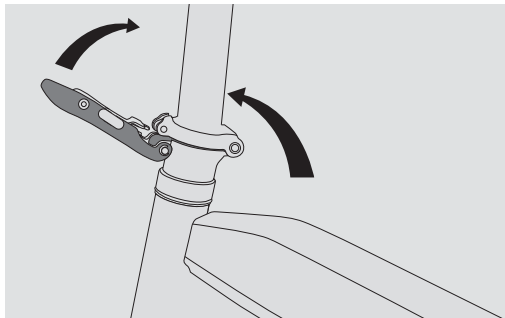

Figure 1.1
1. The first step: After unpacking the whole electric bike, unroll the bike (Always wear: Figure 1.1).